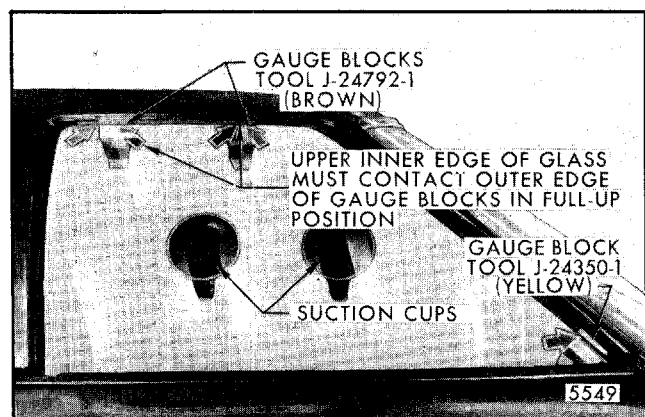

Fig. 5-114-Front Door Window - In and Out and Up-Travel Alignment - "A" Styles
6. In-Out Alignment: Loosen guide upper screws ("4"). Apply firm outboard pressure against guide to remove slack from system and hold upper edge of glass against tab on gauge blocks (Fig. 5-114). Tighten guide screws.
7. High-Low Alignment and Stability: With glass in full-up position against gauge blocks, (Fig. 5-114) adjust the following components in order.